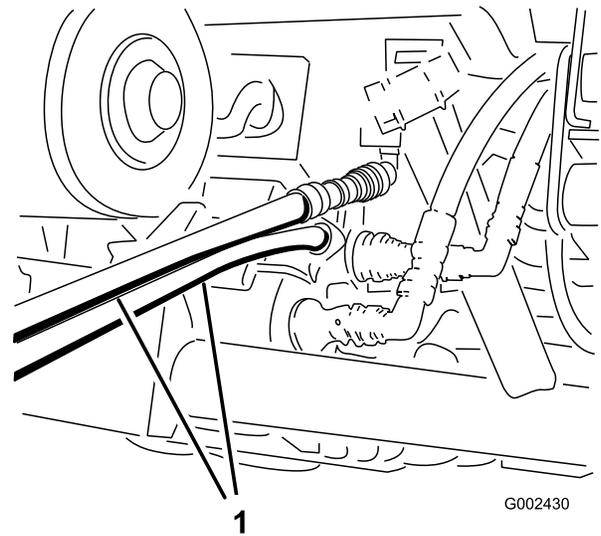

Figure 68
5. On the other machine, connect the two hoses to the coupler still in the coupler bracket (connect the top hose to the top coupler and the bottom hose to the bottom coupler) (Figure 68).